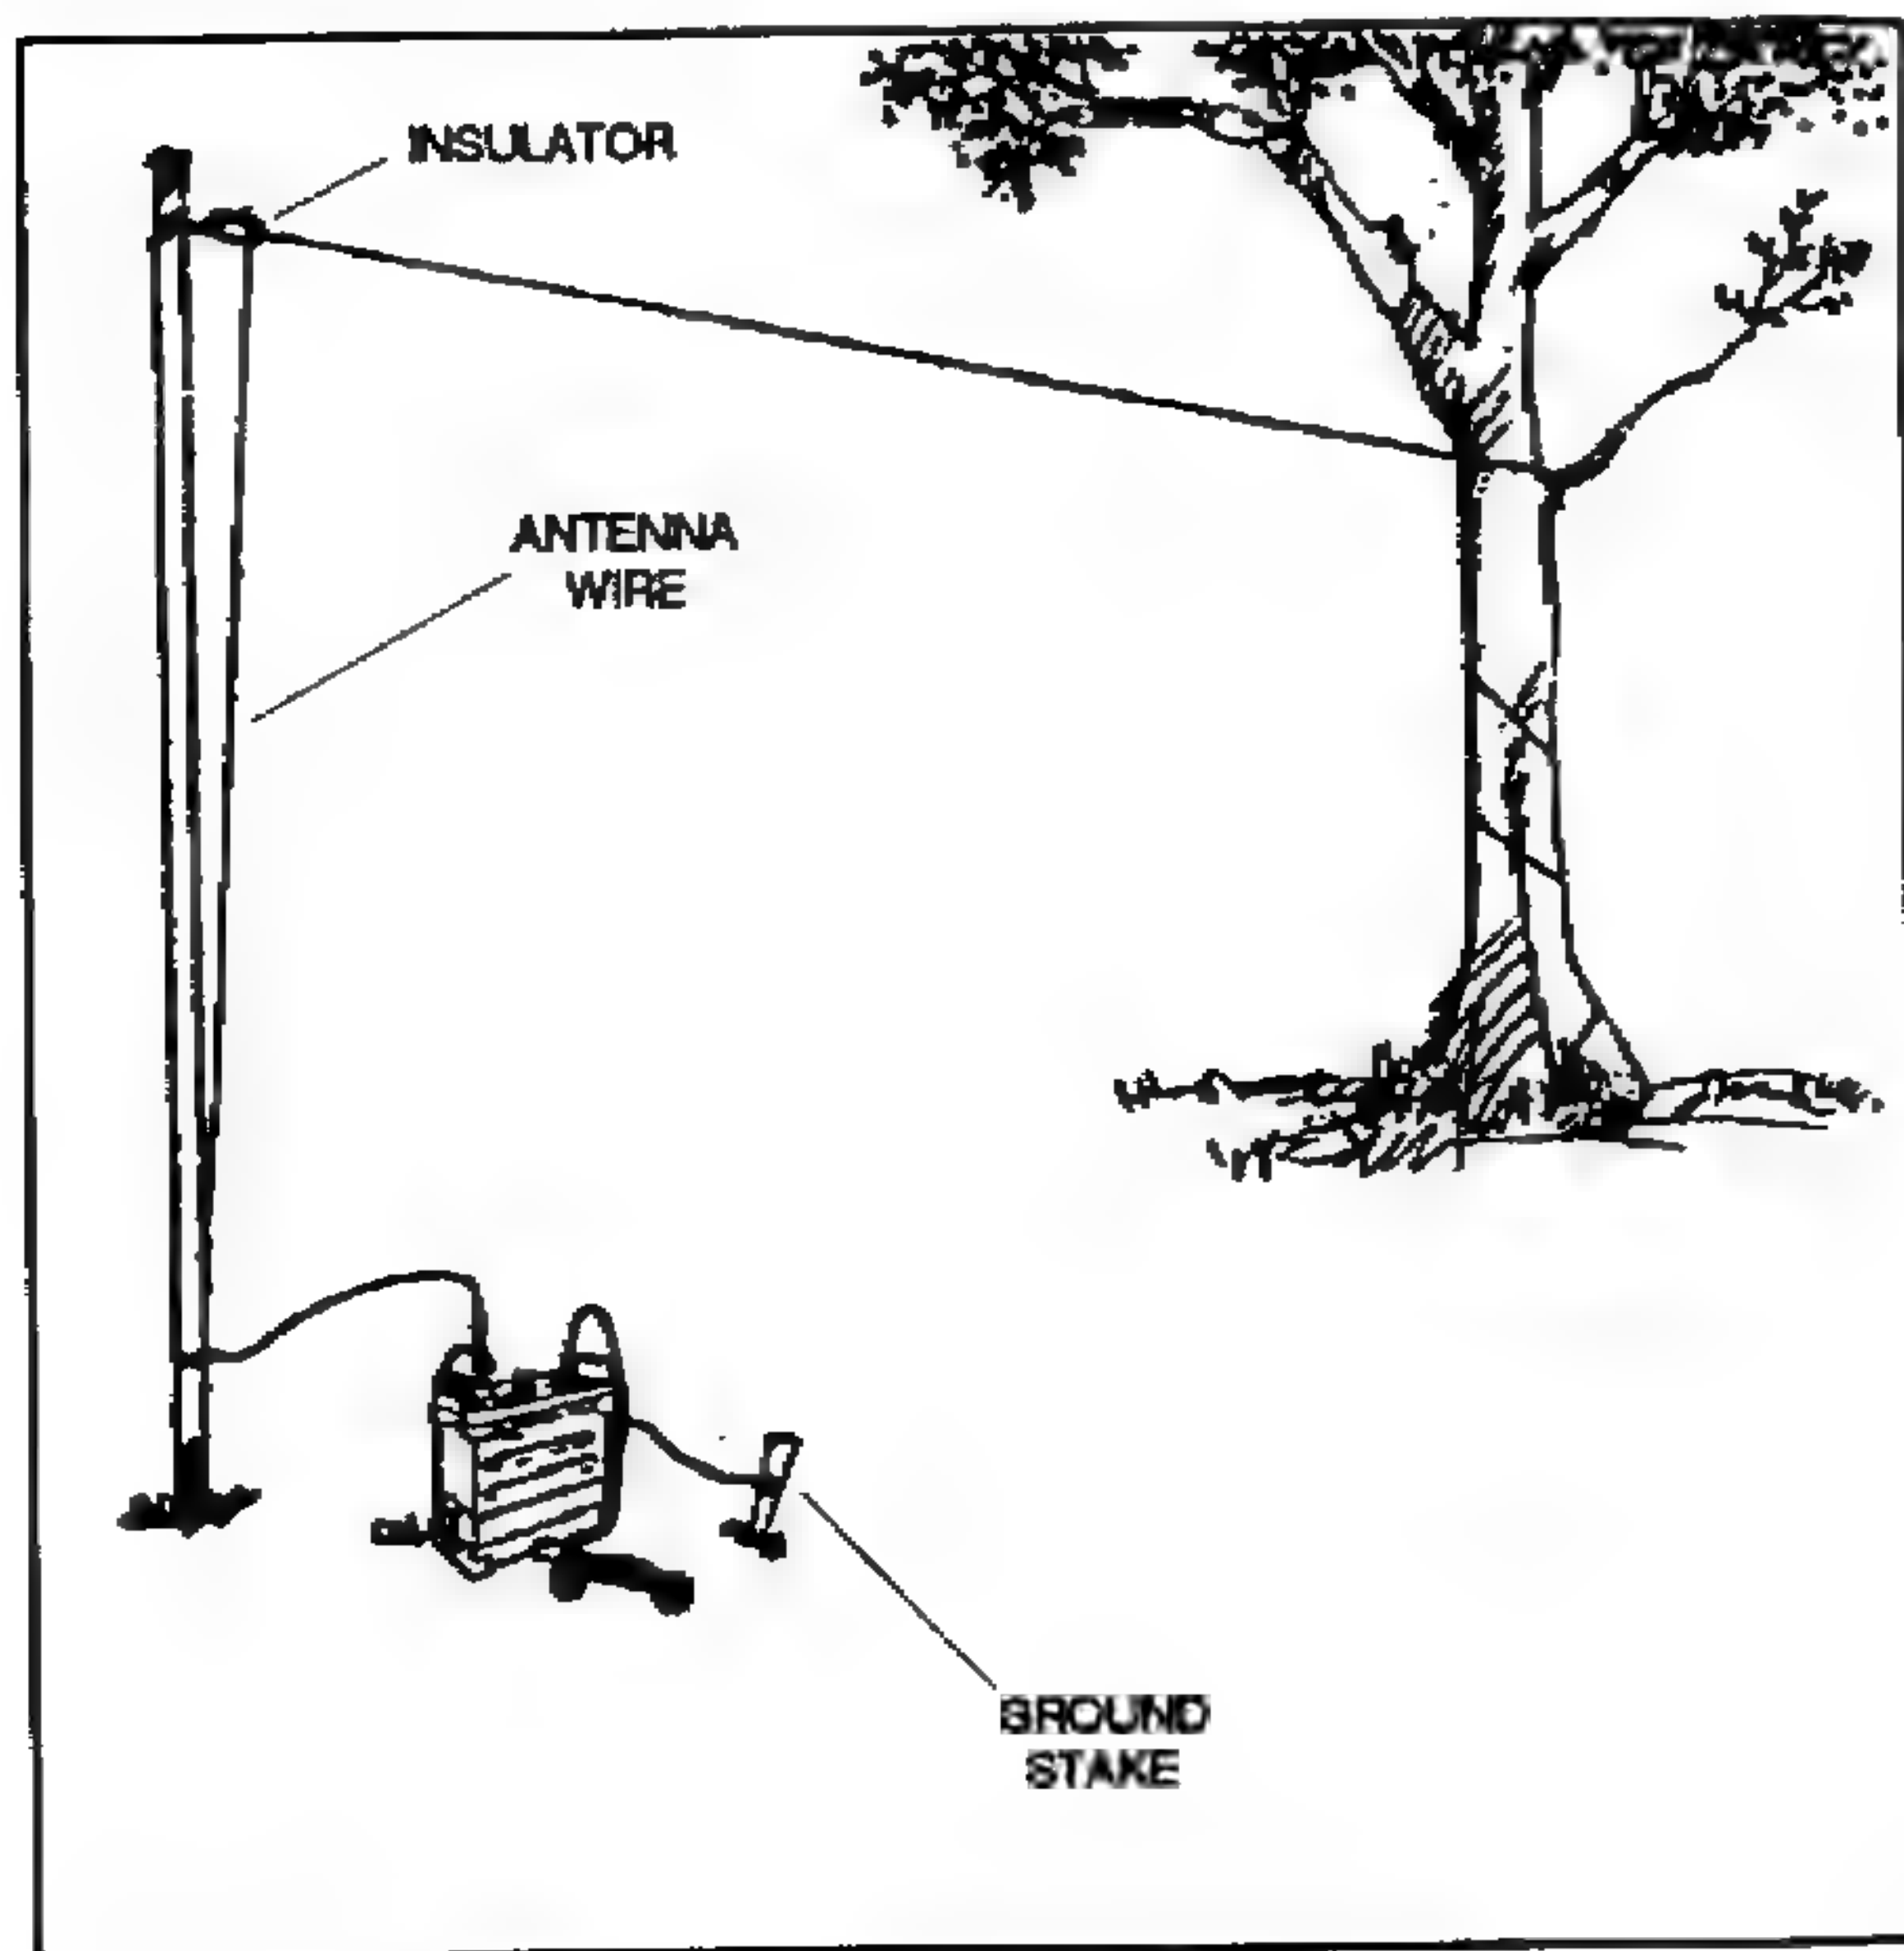

Figure 7-5. End-fed half-wave antenna.
a. **End-Fed Half-Wave Antenna.** An emergency, end-fed half-wave antenna (Figure 7-5, page 7-6) can be constructed from available materials such as field wire, rope, and wooden insulators. The electrical length of